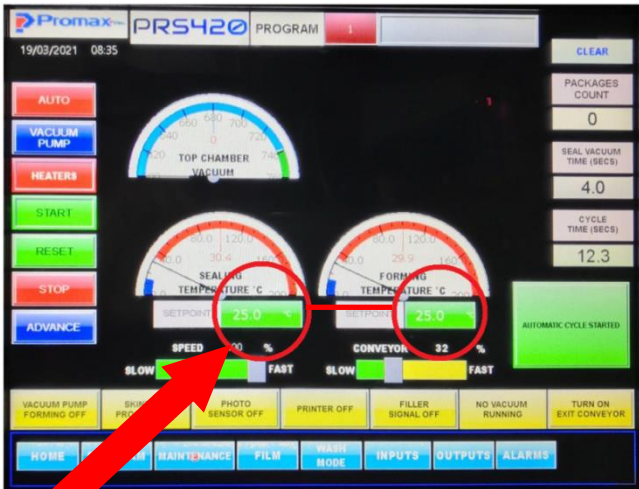
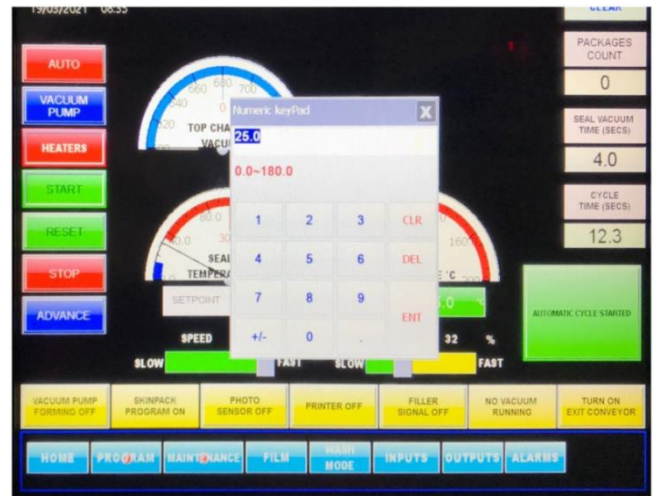

Fig.OP-5.9
Fig.OP-5.10
- For a quick tweak of temperature of either FORMING or SEALING just press the current temperature numbers on HOME screen (Fig.OP-5.9). Enter the new value and push the OK button (Fig. OP-5.10).